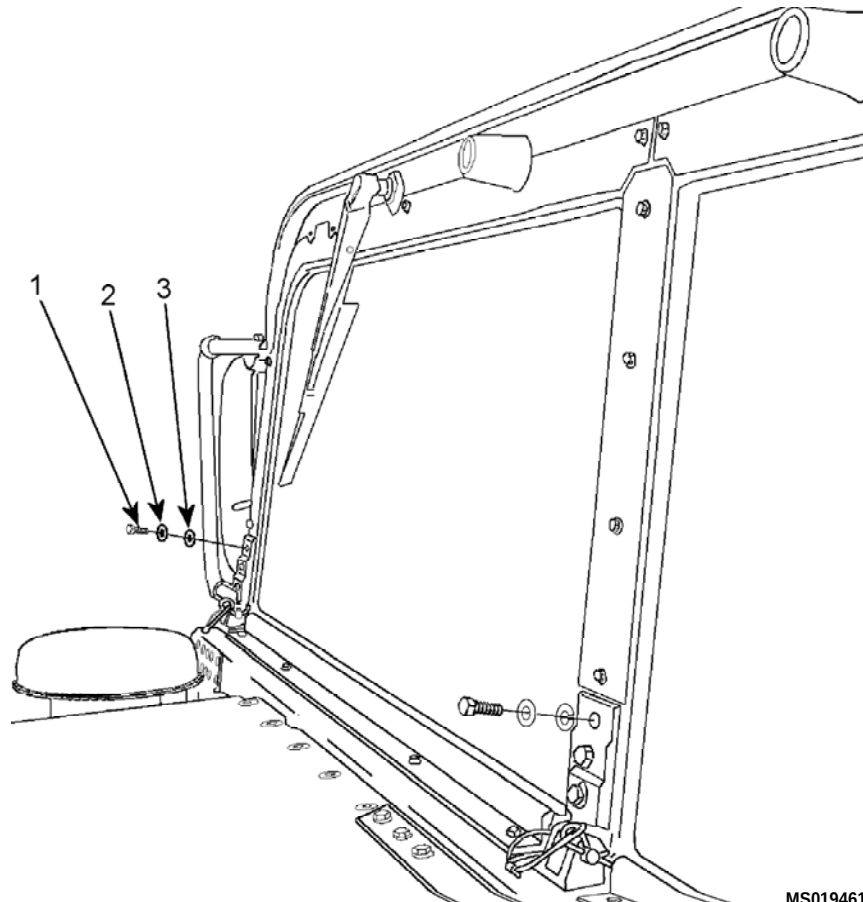

Figure 1. Windshield Bolt (Typical 3 Places)
2. At vehicle windshield (Figure 1), remove upper hinge bolt (1), flat washer (2), and lock washer (3) from each of three window hinge locations across windshield and store with Organizational Maintenance.